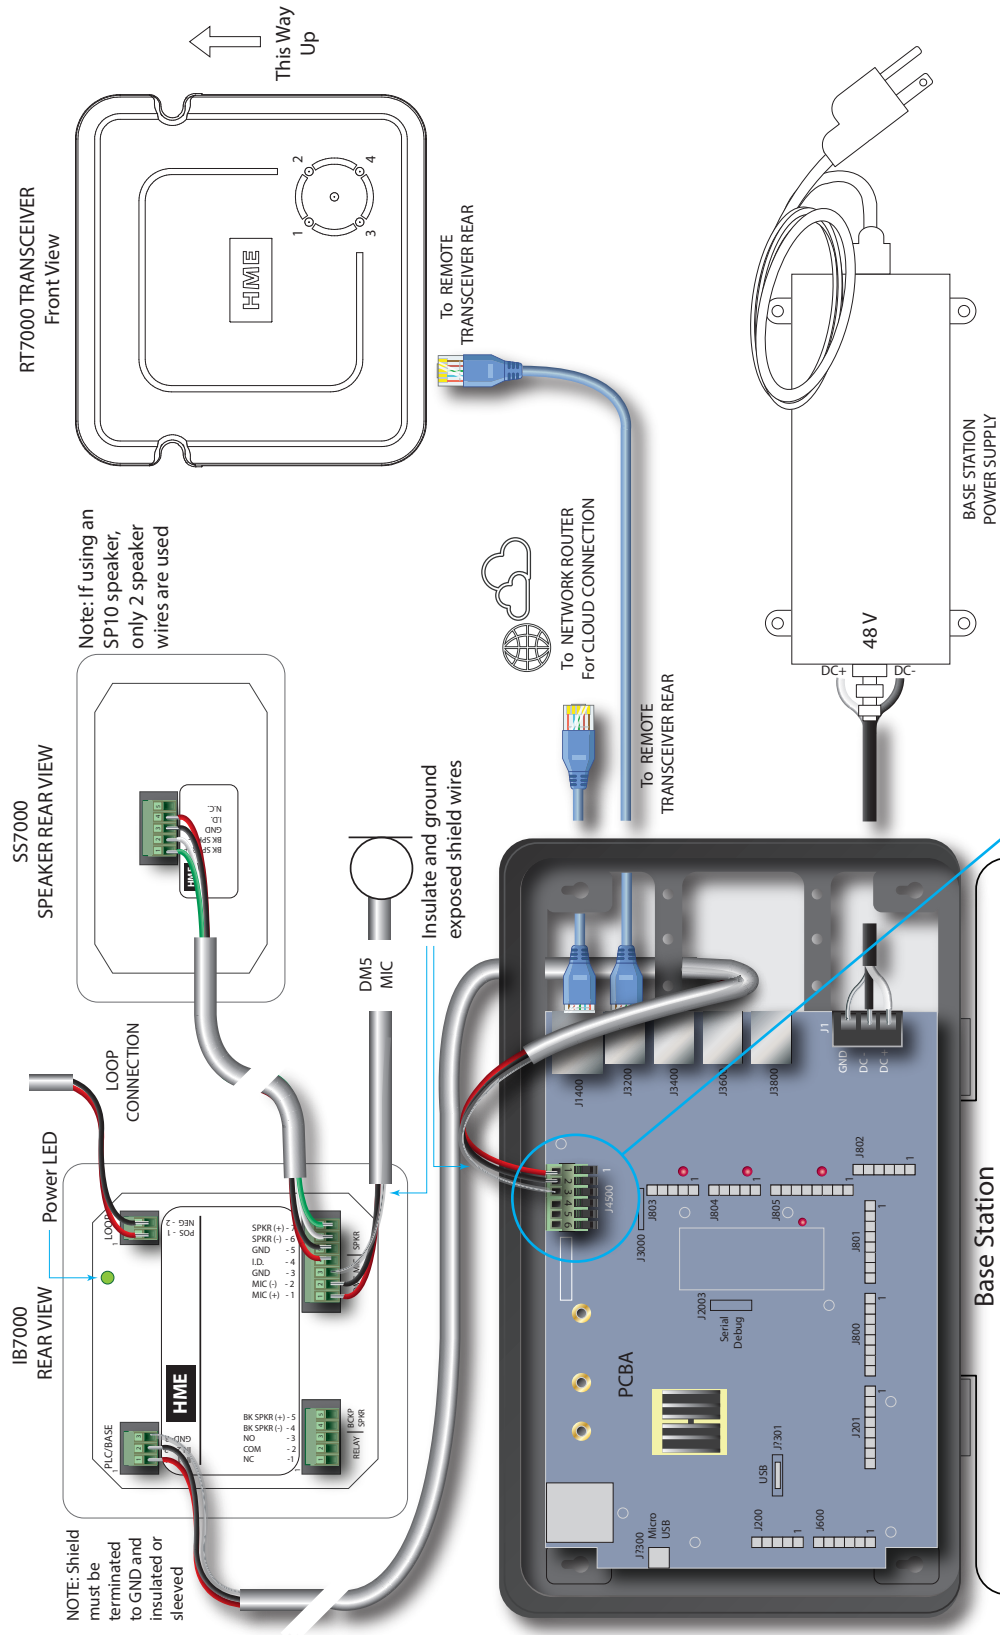

Fig. 2.12
6. Install the other components. The DM5 microphone and SS7000 speaker, or SP10 speaker, must be installed using the IB7000 interface box. Use Fig. 2.12 as a wiring reference and see "Component Notes." for more installation details.
Fig. 2.12 shows the connections for a single-lane drive-thru.